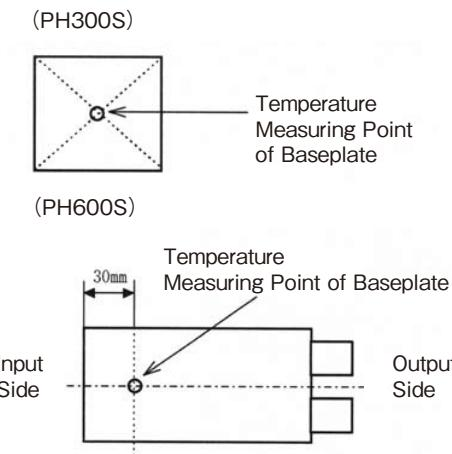

Figure 14-2 Temperature Measurement Point of Baseplate
- 2) Maximum baseplate temperature is 100°C. Confirm it at the measuring point shown as Figure 14-2 in the worst operating condition.